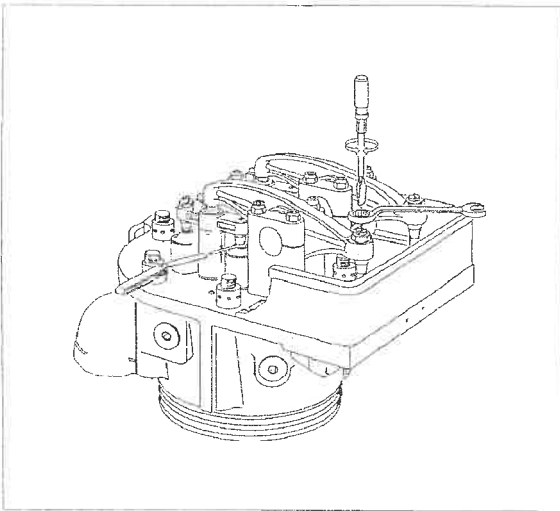

Fig. 1.
- 2) Loosen the adjustment screws on valve bridge and rocker arm, see fig 1.
- 4) Place the feeler gauge marked with "correct" 0,50 mm above the valve spindle nearest to the rocker arm bracket, see fig 1.